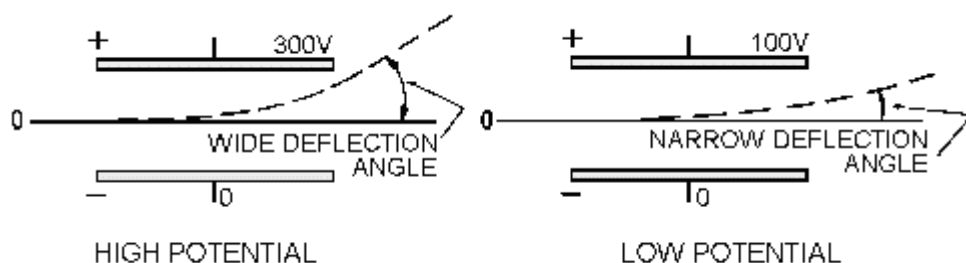

Figure 6-5.—Differences of potential.
**DIFFERENCE OF POTENTIAL.**—The potential on the plates (figure 6-5) can be varied to cause a wider or narrower deflection angle. The greater the potential, the wider the deflection angle.